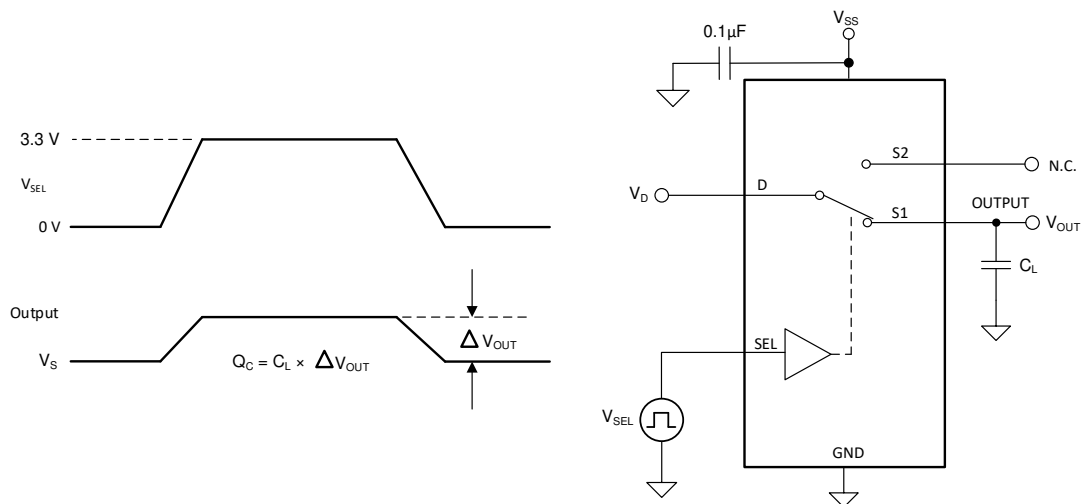

图 7-8. Charge-Injection Measurement Setup
The TMUX4157N has a transmission-gate topology. Any mismatch in capacitance between the NMOS and PMOS transistors results in a charge injected into the drain or source during the falling or rising edge of the gate signal. The amount of charge injected into the source or drain of the device is known as charge injection, and is denoted by the symbol  $Q_C$ . 图 7-8 shows the setup used to measure charge injection from Drain (D) to Source ( $S_x$ ).